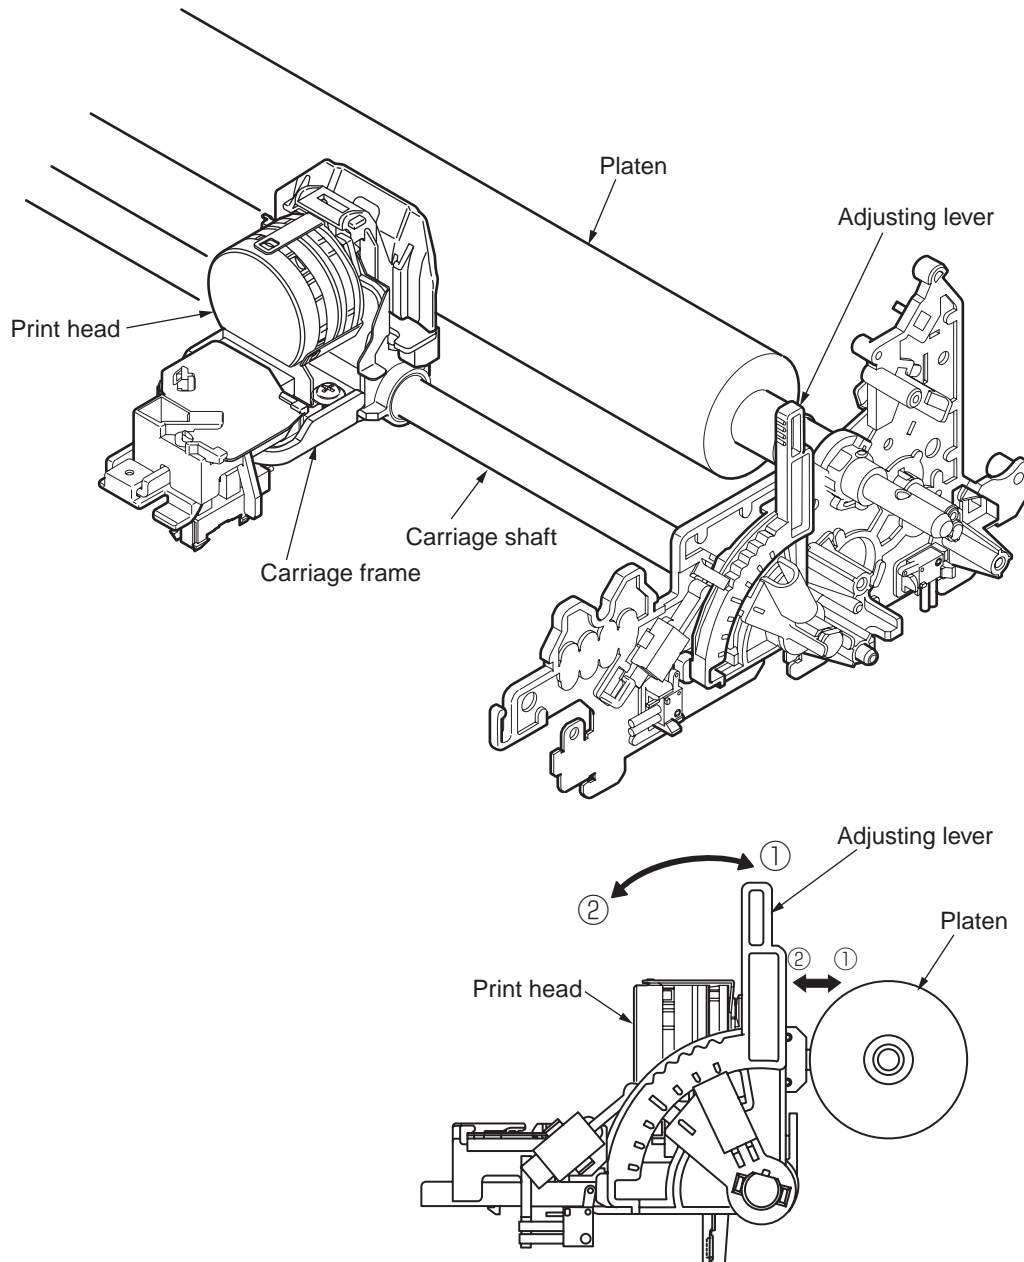

Figure 4
2.3.3 Mechanism for adjusting the head gap (See Figure 4)